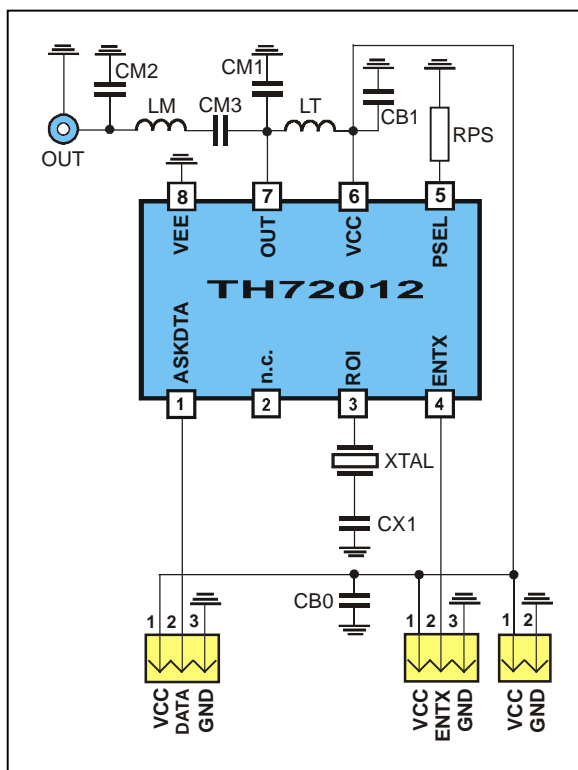

Fig. 17: Test circuit for ASK with 50 Ω matching network
- Data according to test circuit in Fig. 17
6.1 Test circuit component list to Fig. 17